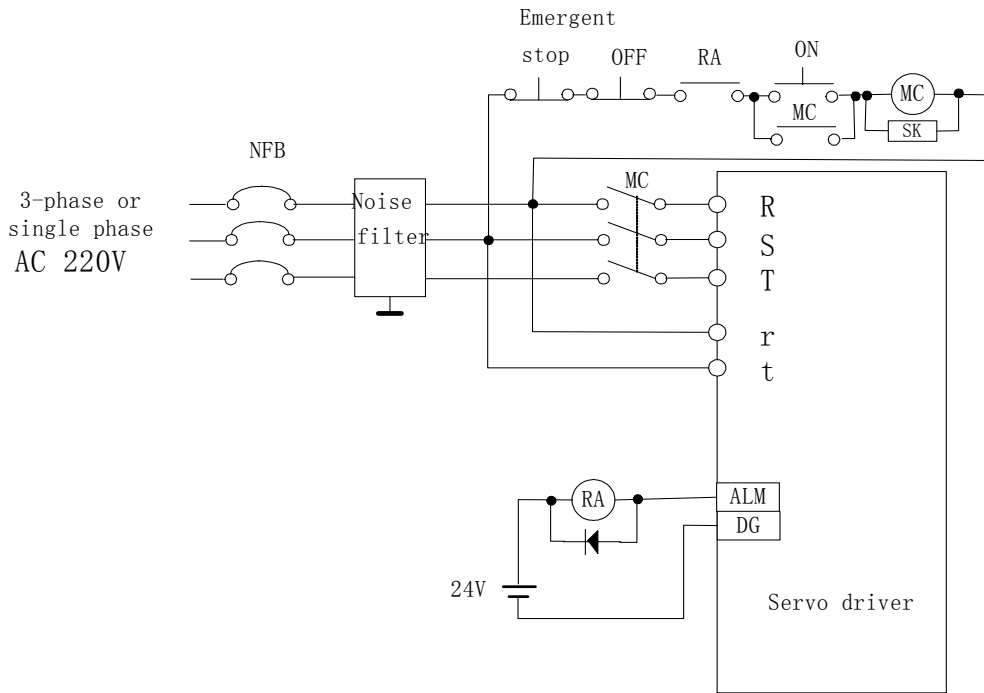

Fig. 7.1 Power supply connection diagram
- Connect with an emergent stop circuit to make the power supply stop immediately when there is fault. (Refer to Fig. 7.1).
Refer to Fig. 7.1 about power supply connection as follows: